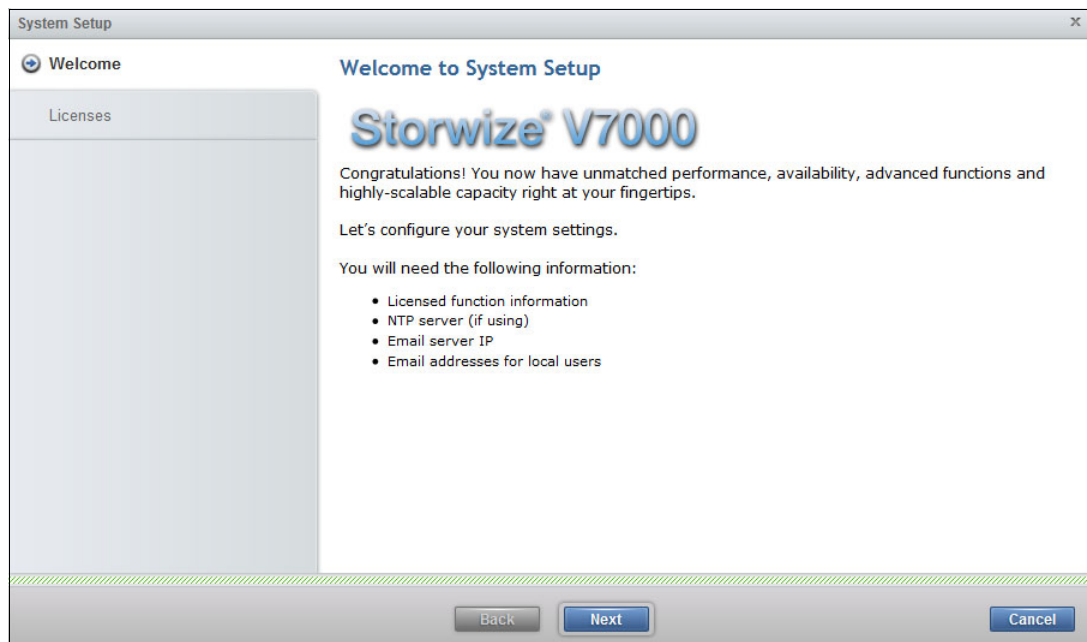

Figure 2-15 Welcome window for system setup
3. System Setup starts with the Welcome window, as shown in Figure 2-15. Click **Next**.